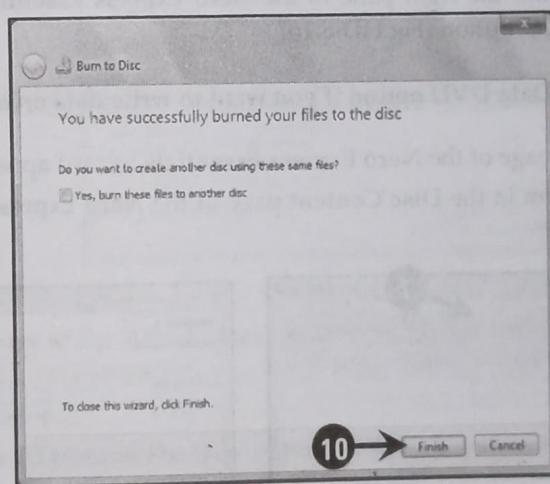

Fig.HD-8.13
When the burning process is complete, a confirmation message box appears, indicating successful completion of the burning process of files to the CD (Fig.HD-8.13).
10. Click the **Finish** button to complete the file burning process, as shown in Fig.HD-8.13: